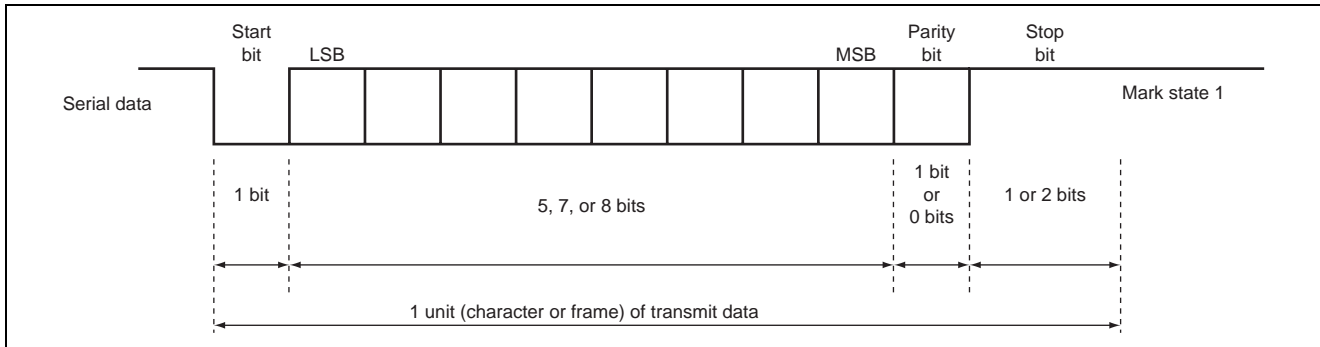

Figure 2 Data Format for Serial Data Transmission in the Asynchronous Mode
- Figure 2 shows the data format for serial data reception in the asynchronous mode.